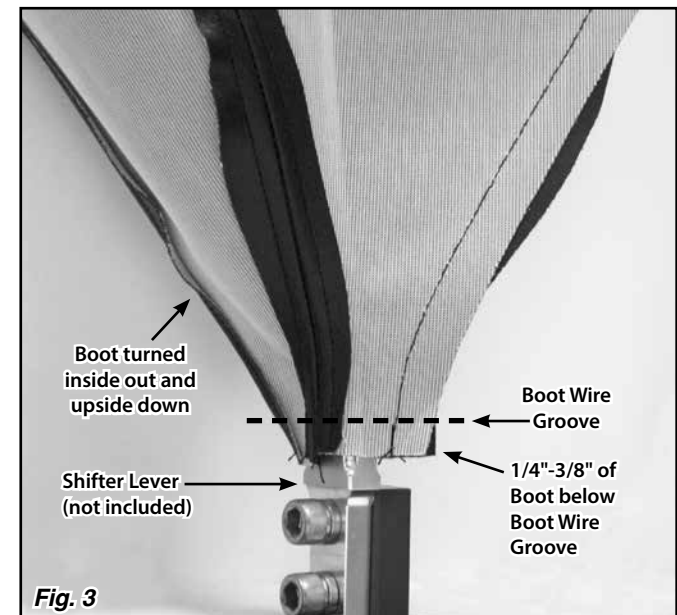

Fig. 3
Step 3: Turn the Boot inside out and upside down. Slide the small end of the Boot over the top end of the Shifter Lever, and down to the desired height on the Shifter Lever. If the Shifter Lever has a boot wire groove, place the Boot so that approximately 1/4" - 3/8" of the Boot is below the boot wire groove on the Shifter Lever. **Fig. 2 & Fig. 3**